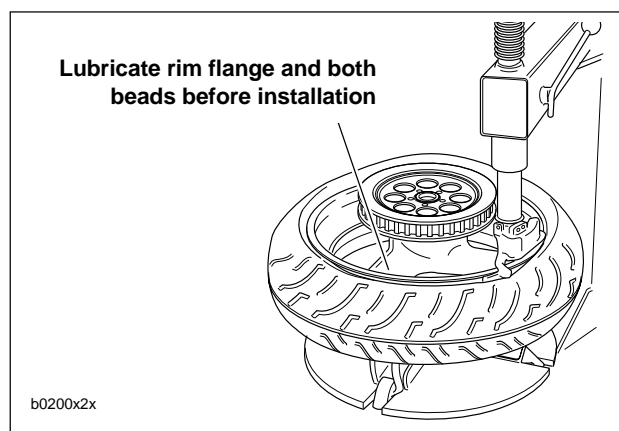

Figure 2-17. Starting Bead on Rim
4. See Figure 2-17. Starting at the valve stem, start first bead into the rim well using a bead breaker machine. If no machine is available, work bead on as far as possible by hand. Use a tire tool to pry the remaining bead over rim flange.